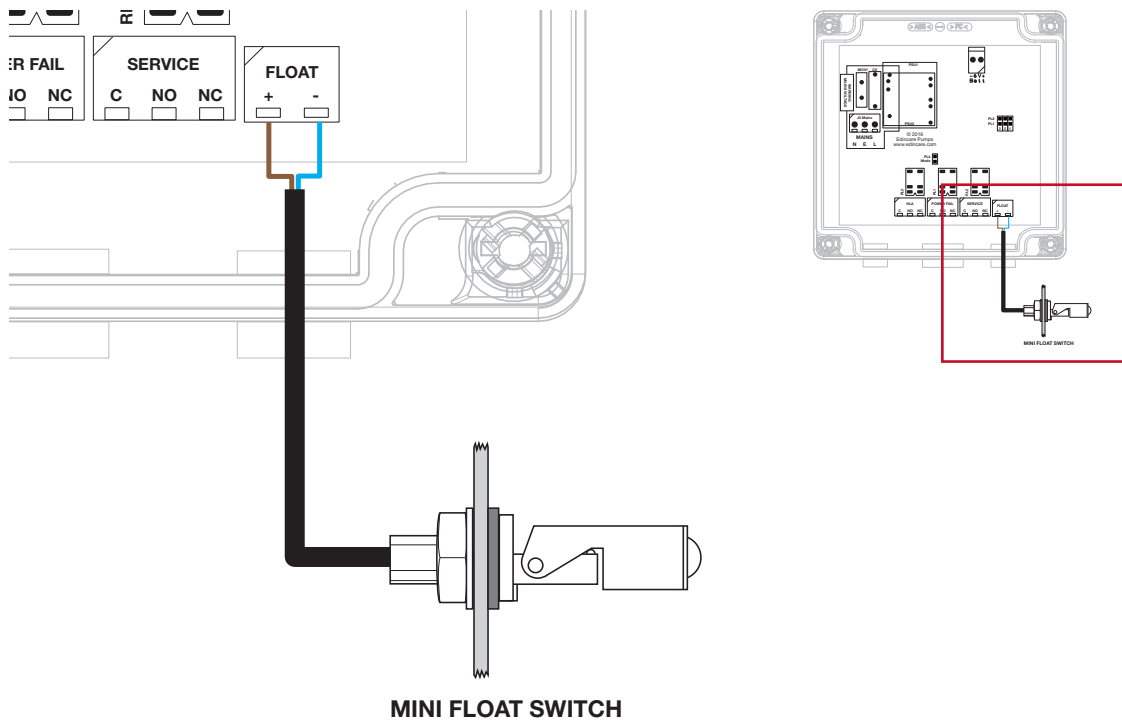

Figure 7. Connecting the mini float switch to the Delta HLA.
3. Connect the brown core to the positive and the blue core to the negative terminal, as shown in Figure 7.